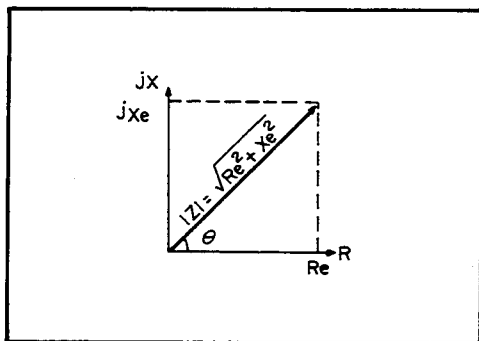

Figure 3-28. Impedance Vector Representation
3-88. The impedance of a component can be expressed in vector representation by a complex number as shown in Figure 3-28. In such representation, the effective resistance and effective reactance correspond to the projections of the impedance vector $|Z| < \theta$, that is, the real (R) axis and the imaginary (jX) axis, respectively.